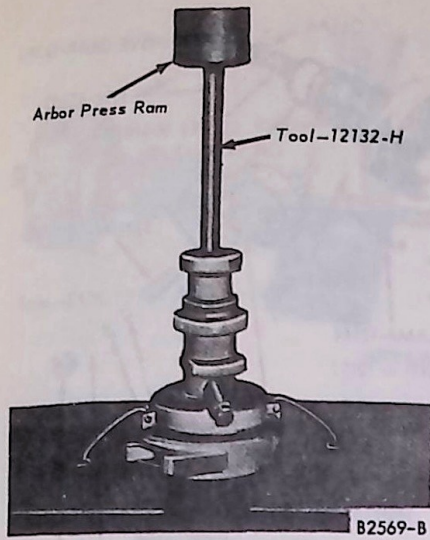

FIG. 8 Removing Bushing—6-Cylinder Engine
16. Refer to Fig. 8 and remove the distributor shaft bushing.